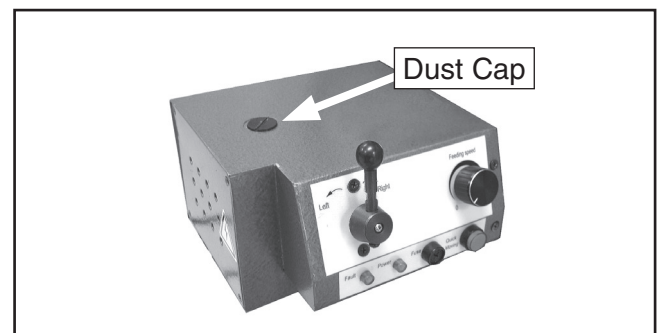

Figure 24. Top dust cap location.
2. Unscrew the power feed top dust cap (**Figure 24**).